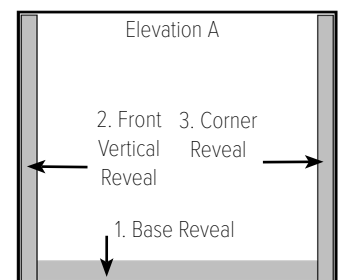

Figure 2.3.2
2.3.2 Place the corner reveal on the floor, against the wall & over existing base & apply light pressure to the length of it as shown in Figure 2.3.2